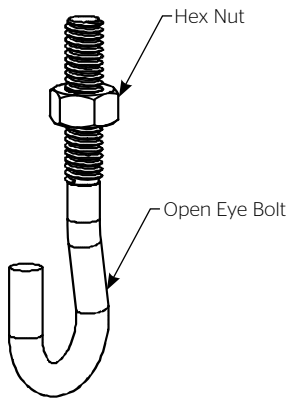

Figure 6
1. Thread hex nut onto 5/16" open eye bolt half way down thread. (See Figure 6)